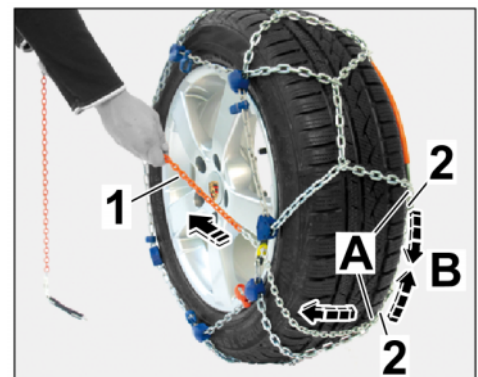

Figure 10
2.2.4 Grasp tensioning chain in the wheel running surface area and pull it firmly. (⇒ *Figure 10-A-*).
The spring steel clip on the inside of the wheel closes (⇒ *Figure 10-B-*).